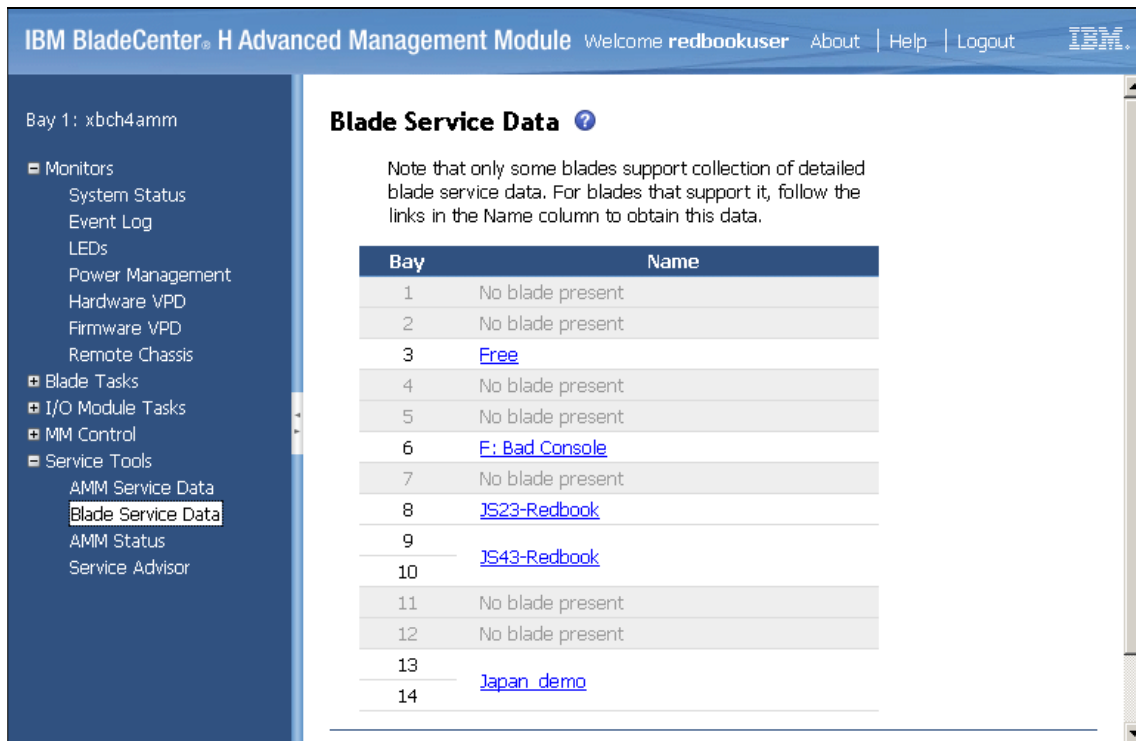

Figure 12-14 AMM Blade Server Data panel
2. In the main menu on the left, click **Service Tools** → **Blade Service Data**, as shown in Figure 12-14 on page 481.